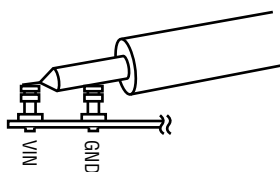

Figure 2. Measuring Input or Output Ripple
NOTE. When measuring the input or output voltage ripple, care must be taken to avoid a long ground lead on the oscilloscope probe. Measure the input or output voltage ripple by touching the probe tip directly across the V_{IN} or V_{OUT} and GND terminals. See Figure 2 for proper scope probe technique.
6. With V_{IN} at least 1V above V_{OUT} , increase the load on V_{OUT} from 0mA to 50mA and observe the input current. The output ripple may also be observed using an oscilloscope with the probe connected as shown in Figure 2.
NOTE. When measuring the input or output voltage ripple, care must be taken to avoid a long ground lead on the oscilloscope probe. Measure the input or output voltage ripple by touching the probe tip directly across the V_{IN} or V_{OUT} and GND terminals. See Figure 2× for proper scope probe technique.
6. Turn on and set the input current source to 4mA. Observe the voltage across the V_{IN} and GND terminals and across the V_{OUT} and GND terminals. The output ripple may also be observed using an oscilloscope with the probe connected as shown in Figure 2.